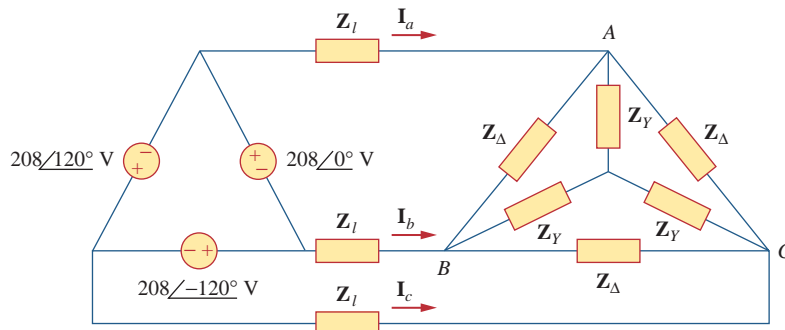

Figure 12.53
12.22 Find the line currents I_a , I_b , and I_c in the three-phase network of Fig. 12.53 below. Take $Z_\Delta = 12 - j15 \Omega$, $Z_Y = 4 + j6 \Omega$, and $Z_l = 2 \Omega$.